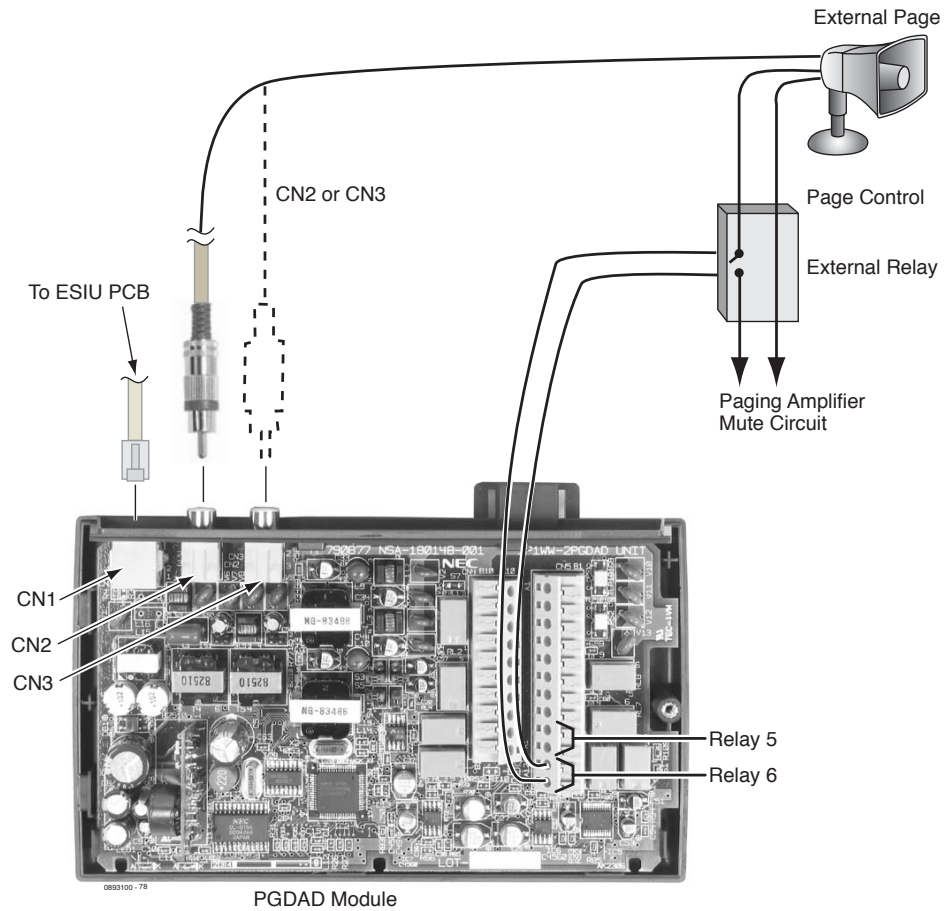

Figure 4-15: 2PGDAD CABLE CONNECTION
*Refer to Relays - External Page, Door Box, General Purpose (Figure 4-15, Figure 4-55) (page 4-56) for information on connecting the Door Box to a relay.*
#### External Page (Figure 4-15, Figure 4-55)